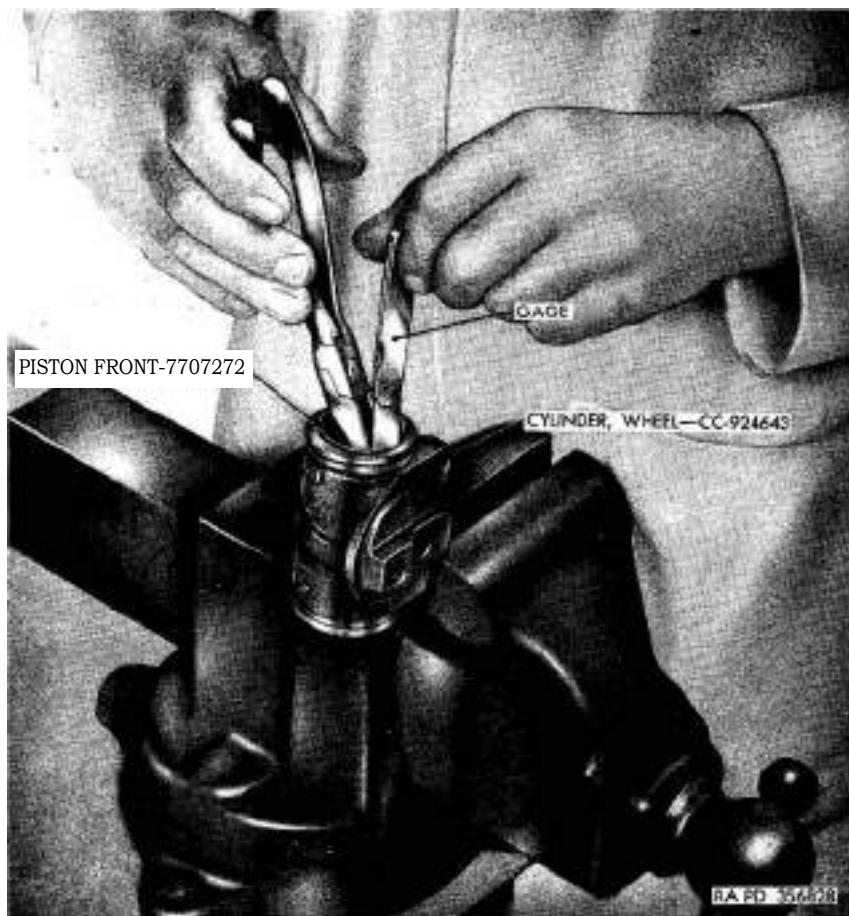
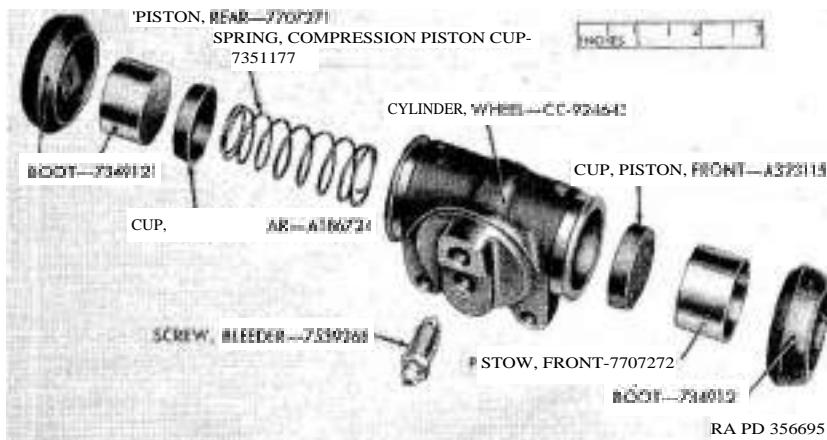
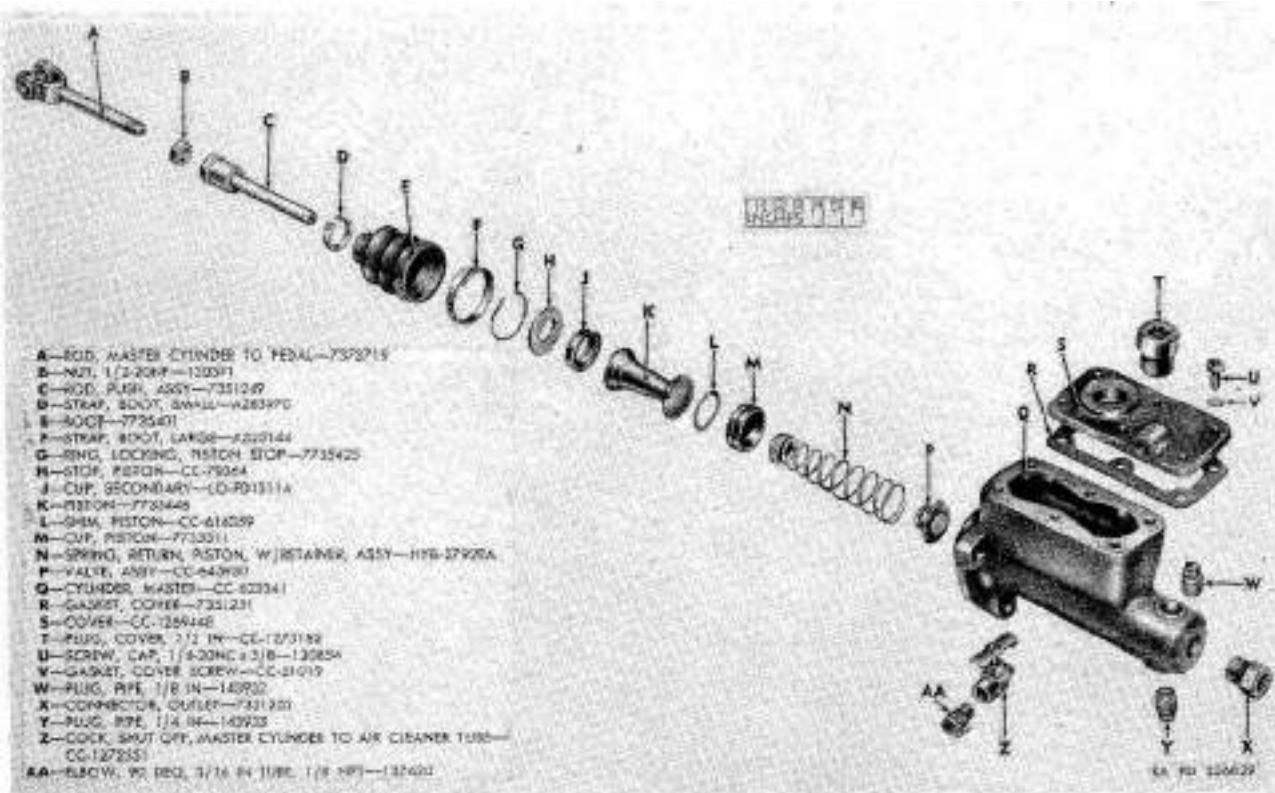

Figure 153. Checking clearance between wheel cylinder and piston with thickness gage.
Figure 154. Wheel cylinder—exploded view.
Figure 155. Master cylinder—exploded view.
a. Remove Boots from Wheel Cylinders (fig. 154). Remove boots from both ends of the wheel cylinder.
b. Remove Bleeder Screw and All Internal Parts from Wheel Cylinder (fig. 154).
- (1) Remove front piston, rear piston, rear piston cup, front piston cup, and piston cup compression spring from wheel cylinder.
- (2) Remove bleeder screw from wheel cylinder.
a. Inspect Wheel Cylinder and Related Parts (fig. 154).
- (1) Inspect wheel cylinder for wear, corrosion, or cracks.
- (b) If wear is evident in the bore of wheel cylinder, check clearance between wheel cylinder and a new piston with a thickness gage (fig. 153). Place thickness gage
a. General. Absolute cleanliness must be exercised in the assembly of wheel cylinder parts. To insure proper protection of wheel cylinder bores and pistons, coat parts with hydraulic brake fluid (HB) before installation.
b. Install Parts in Wheel Cylinder (fig. 154).
- (1) Place piston cup compression spring in wheel cylinder with large end toward large bore of wheel cylinder.
- (2) Install front piston cup and rear piston cup (flat side out).
- (3) Install front piston and rear piston (flat side in).
- (4) Install a boot at each end of wheel cylinder. Make certain slot in boot is vertical to insure a tight fit on end of brake shoe.
c. Install Bleeder Screw (fig. 154). Install bleeder screw in upper threaded hole of wheel cylinder.
(fig. 155)
Note. The key letters noted in parentheses are in figure 155, except where otherwise indicated.
a. *Inspection (fig. 155).*
- (1) Inspect master cylinder (Q) for wear, corrosion, or cracks.
- (b) If wear is evident in bore of master cylinder, check clearance between master cylinder and a new piston with thickness gage in a manner similar to that used for wheel cylinder (*fig. 153*). Place thickness gage in master cylinder and insert new piston to determine size of thickness gage that can be pulled from cylinder with a slight drag. If clearance exceeds wear limit indicated in paragraph 348, master cylinder must be replaced.
- (2) If bore of master cylinder is corroded, but clearance between cylinder and new piston is less than the wear limits specified in paragraph 348, cylinder can be repaired as described in b below.
- (3) If master cylinder is cracked, install a new master cylinder.
- (4) Inspect cover (S) for cracks, damaged machined sur-
- (5) Inspect 1/2-inch cover plug (T), $\frac{1}{4}$ -inch pipe plug (W), outlet connector (X), pipe plug (Y), master cylinder-to-air cleaner tube shut-off cock (Z), and 90° 3/16-inch tube $\frac{1}{4}$ NPT elbow (AA) for damaged threads, cracks, or other visual damage. If any of the parts are unsatisfactory, replace as required.
- (6) Inspect master cylinder-to-pedal rod (A), $\frac{1}{2}$ -~~20NF~~ nut (B), and push rod assembly (C) for damaged threads, distortion, or worn clevis pin holes. If any of these conditions exist, replace parts as required.
- (7) Inspect small boot strap (D) and large boot strap (F) for damage or distortion. If either of these defects are apparent, replace parts as required.
- (8) Boot must be replaced whenever repairs are performed on master cylinder.
- (9) Inspect piston stop locking ring (G) and piston stop (H) for distortion, corrosion, or damage. If corrosion on piston stop is not excessive, it can be removed; however, locking ring must be replaced if it is distorted.
- (10) Discard secondary cup (J) and piston cup (M).